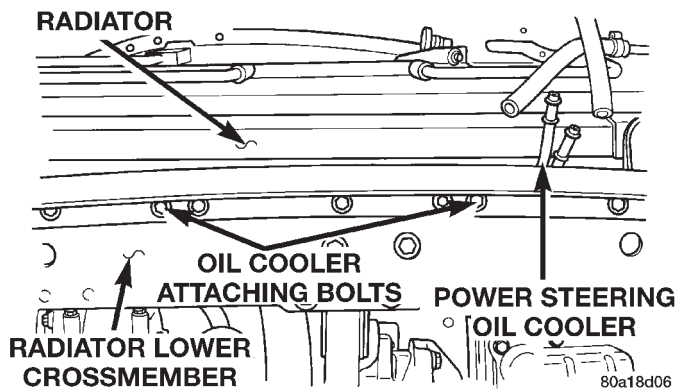

Fig. 44 Power Steering Fluid Cooler Attachment
- (3) Remove the 2 bolts (Fig. 44) attaching the power steering fluid cooler to the radiator lower crossmember (Fig. 44).
(2) Install the 2 bolts (Fig. 44) attaching the power steering fluid cooler to the radiator lower crossmember. Tighten the attaching bolt to a torque of 7 N·m (60 in. lbs.)